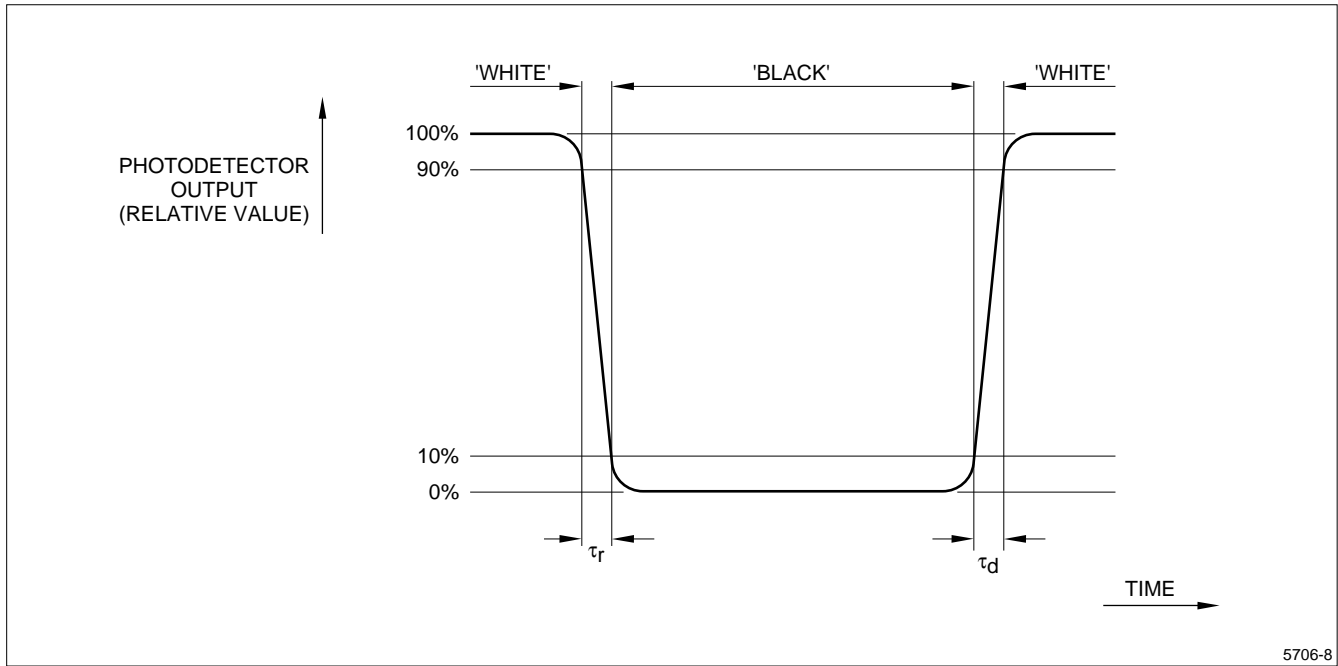

Figure 6. Definition of Response Time
4. The Response Time is measured as shown in Figure 6 by switching the input signals for 'black' ON and OFF.